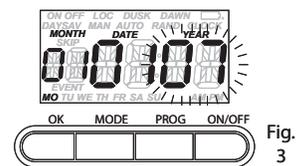

Fig. 3
5. Press the OK button to set the minutes. MONTH, DATE and YEAR will show in the mode display area, with the digits under YEAR flashing (Fig. 3).